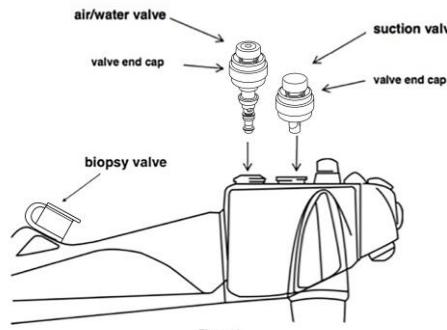

Figure 1
4. Insert the suction valve into suction cylinder of an Olympus® endoscope (see Figure 1 below).
9. Insert the air/water valve into the air/water cylinder of an Olympus® endoscope (see Figure 1 below).
13. Securely place the biopsy valve onto the biopsy/suction channel opening of an Olympus® endoscope (See Figure 1). **Note:** This biopsy valve does not accommodate a luer-lock syringe without an irrigating adapter.